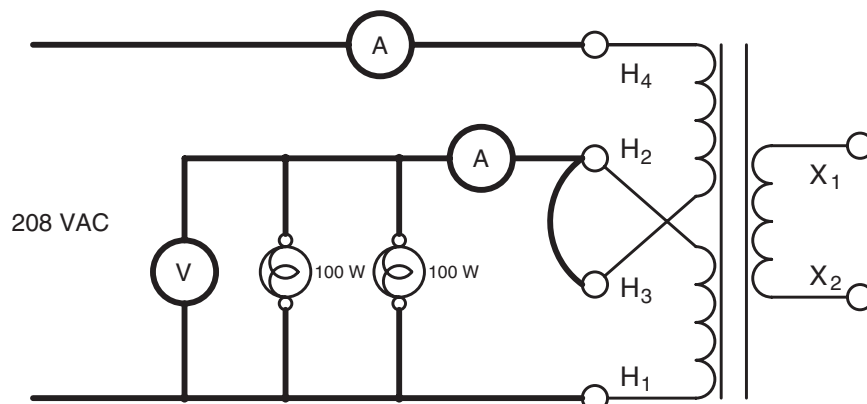

Figure 22-8 Adding load to the autotransformer.
15. Connect another 100 watt lamp in parallel with the existing lamp (Figure 22-8).